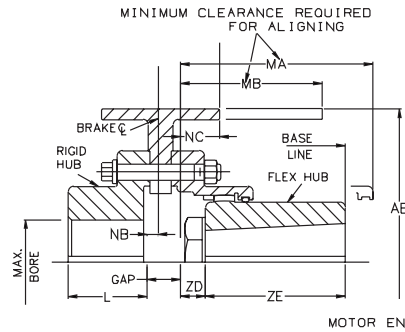

FIG. 1
The static rectifier/controller shown in Fig. 1 is equipped with two electronic circuits one for releasing the brakes quickly (forcing) and the other for maintaining the brakes in the released position. The system utilizes silicon-controlled rectifiers (SCR's) and silicon rectifiers (diodes) to convert AC input to a full wave DC output for energizing the brake coil. When the AC voltage is applied to the control system, the brake relay (BR) is energized and the two SCR's conduct on alternative half cycles. This results in approximately 100 volts being applied to the brake coil. The SCR's are triggered by a free running uni-junction oscillator, which operates for approximately one second. At the end of the period, conduction ceases through the SCR's and the brake holding current is maintained by the 24V AC transformer and rectifier stack circuit.